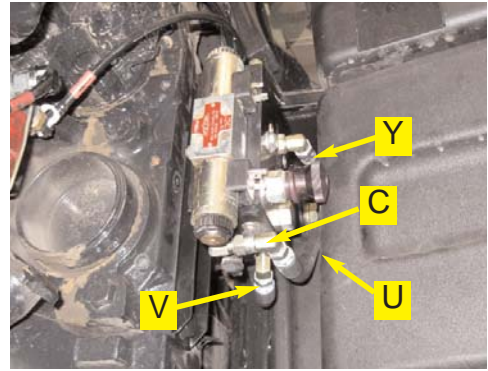

Figure 5a. Installed pressure, tank and load sense hoses at automated steering block.
- a. Connect the straight end of the pressure hose (**U**) from the **P** port of the automated steering block to the adapter fitting (**H**) installed on the tractors hydraulic valve stack. For easier hose installation, install the elbow adapter fitting (**C**) onto the **P** port adapter fitting (**B**) of the automated steering block. (Figure 5a. and 5b.)
- b. Connect the load sense hose (**Y**) from the **LS** port on the automated steering block to the open end of the load sense shuttle (**L**). (Figure 5a. and 5b.)
- c. Connect the straight-end of the tank hose (**V**) from the **T** port on the automated steering block to the adapter fitting (**K**) on the steering orbital. (Figure 5a. and 5c.)